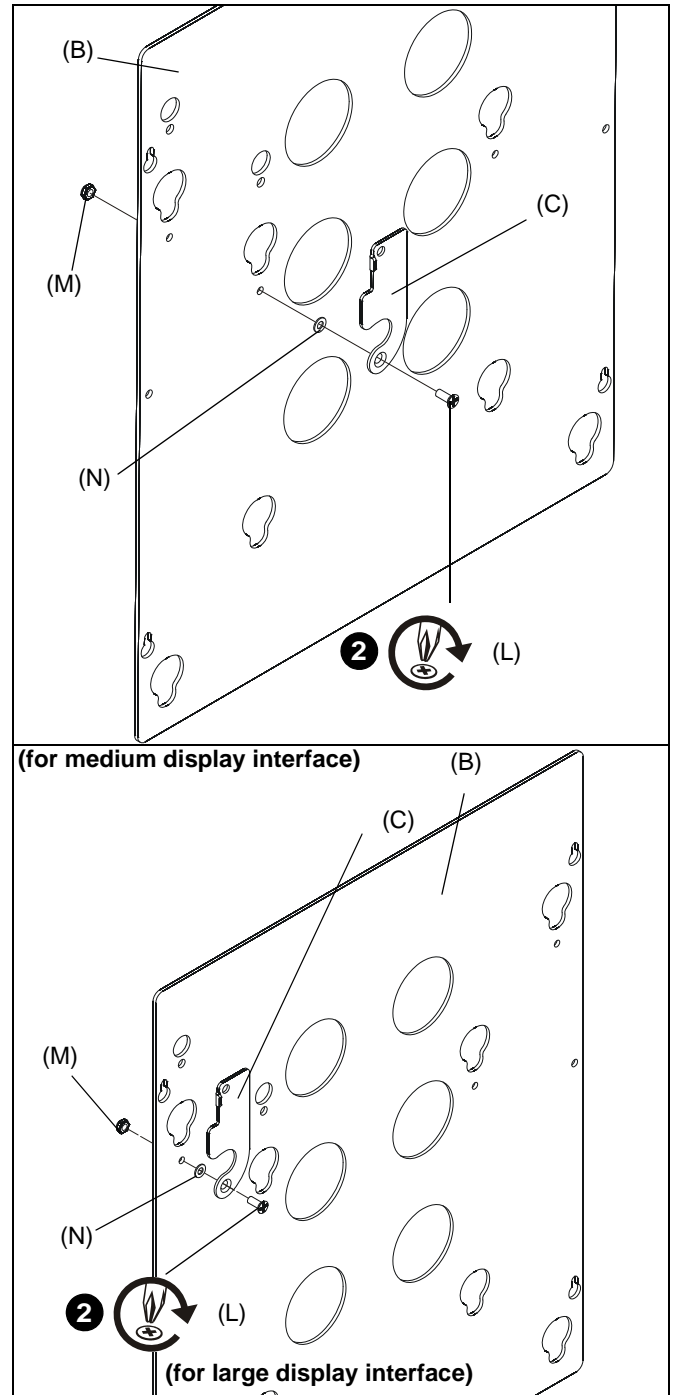

Figure 2
1. Install #10-24 x 1/2" Phillips undercut machine screw (L) through lower hole on locking flag (C), nylon spacer (N), corresponding hole on face plate (B) and into #10-24 x 1/2" lag nut (M). (See Figure 2)
2. Use #2 screwdriver to fully secure flag to face plate using a 3/8" wrench to hold lag nut in place. (See Figure 2)